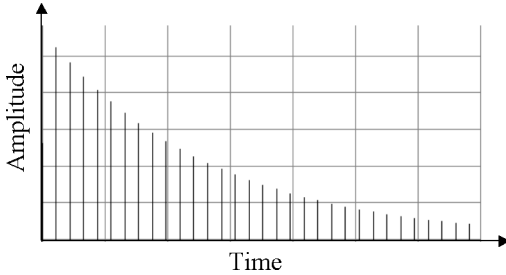

Figure 2.40: A comb filter's impulse response
The immediate response is distinct echoes bouncing off walls called early reflections (ER). The pattern gradually grows more diffuse as amplitude decays exponentially. Compare this to the impulse response of a comb filter, in essence a delay line with feedback. Figure 2.40 plots a comb filter's impulse.